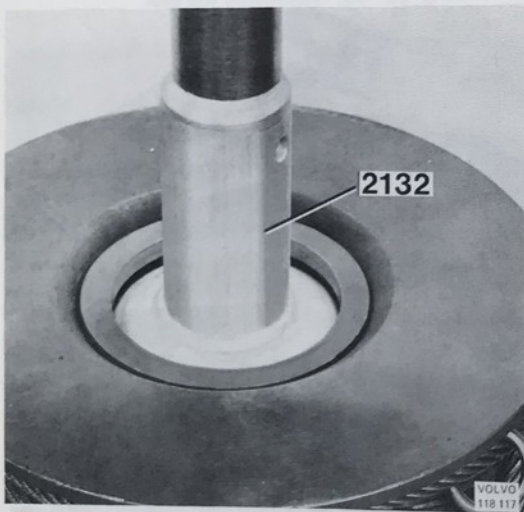

Fig. 92-52. Pressing out the bearing
13. Place the drum in a press and press out the bearing with 2132, see Fig. 92-52.